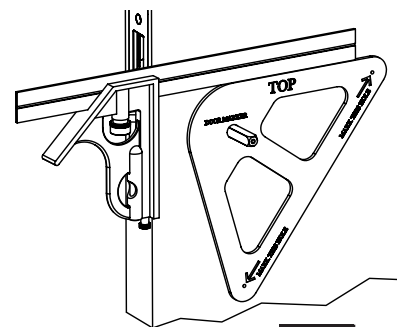

Figure 2
1. Insert mortise lock into door and fully tighten 1" lock mounting combination screws. (Figure 2)